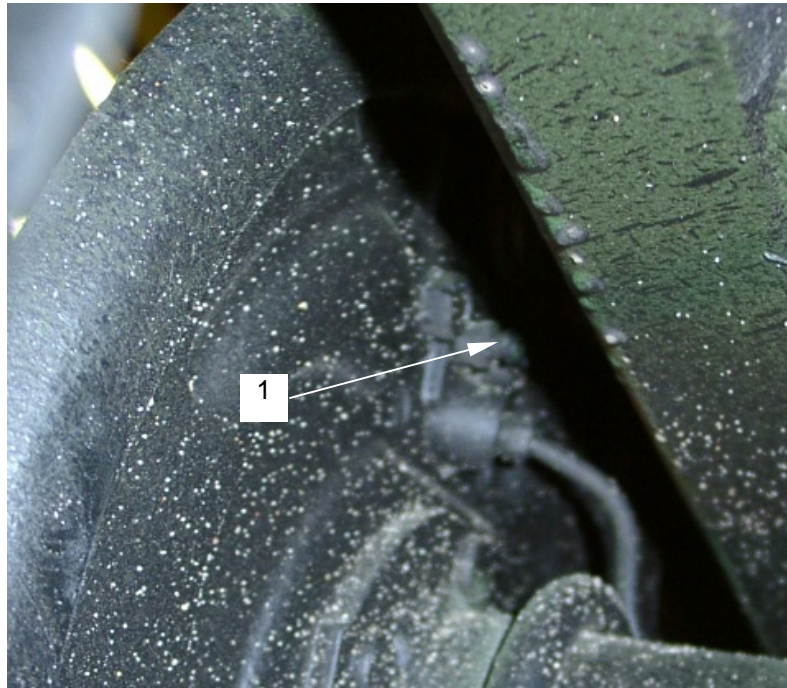

Figure 8. Bleeder Valve
- i. Install a bleeder hose on the bleeder valve (**figure 8, item 1**) of the farthest wheel cylinder from the breakaway lever. Bleed the rear axle first.
- k. Open the bleeder valve (**figure 8, item 1**) and have the operator stroke and maintain pressure on the break-away lever. Brake fluid and/or bubbles will flow into the jar.